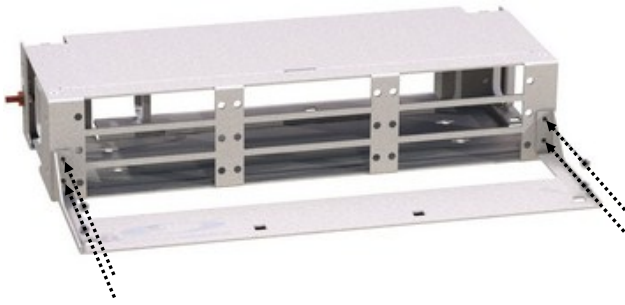

Fig. 1
1. Install the Cable Management Bracket onto the housing with [4] 8-32 x 1/4 Phillips pan head screws; 2 per side (Fig. 1).